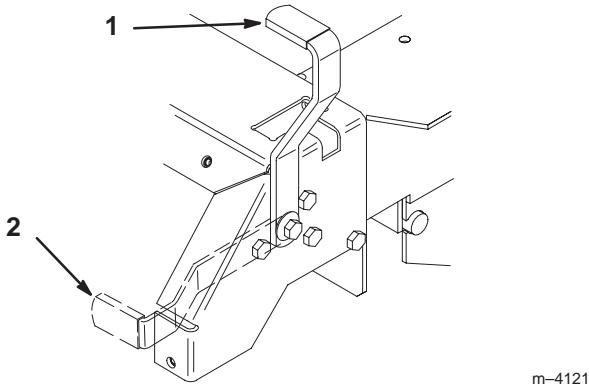

Figure 2
2. Pull back and up on the parking brake lever to set the parking brake (Fig. 2). The parking brake lever should stay firmly in the “ENGAGED” position.
1. Push forward and down on the parking brake lever to release the parking brake (Fig. 2). The parking brake is “DISENGAGED”.